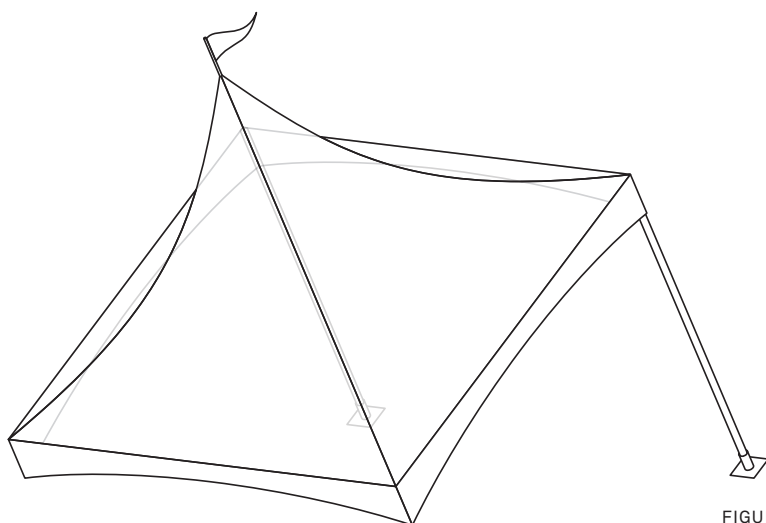
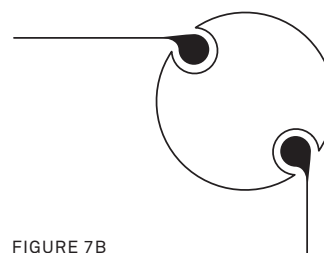

FIGURE 7A
FIGURE 7B
8. Place two poles on one side beneath the frame so that the roof frame lies at an angle (see figure 7a). Ensure that the widening of the keder groove is at the top of the vertical poles and that the keder grooves are fitted at an angle of 45° in relation to the corners of the tent (figure 7b).